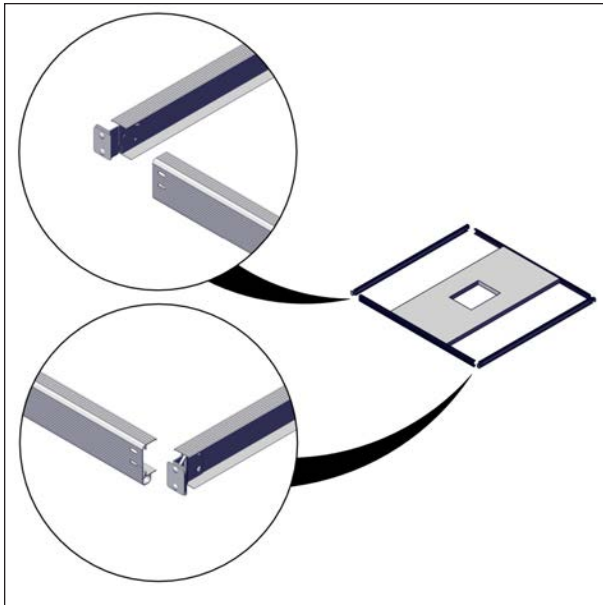
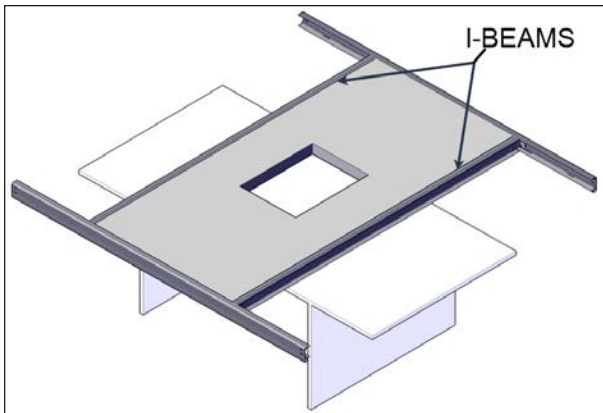
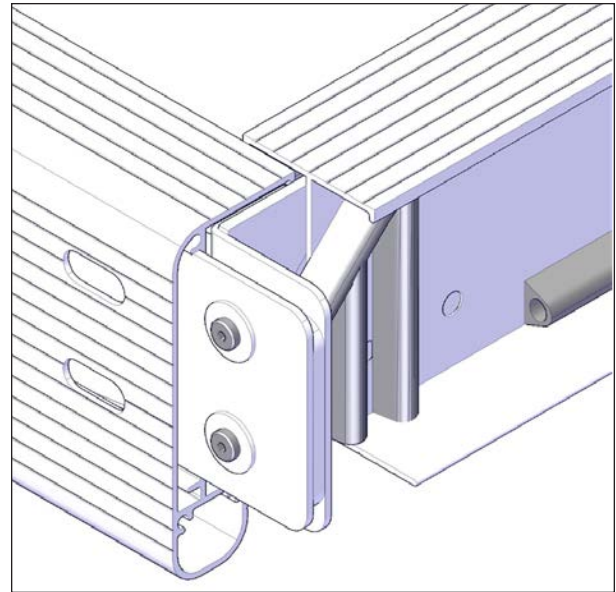

FIGURE 21: I-BEAM INSTALLATION
FIGURE 22: I-BEAM FINAL POSITIONS
FIGURE 23: C-CHANNELS / I-BEAM INSTALLATION
3. Slide one I-beam with short I to C connection plates in the C-channels on both sides of the middle panel, see Figure 21 and Figure 22. Install the I-beams so that the bent portion of the I to C connection plate is pointing outwards, see Figure 23.